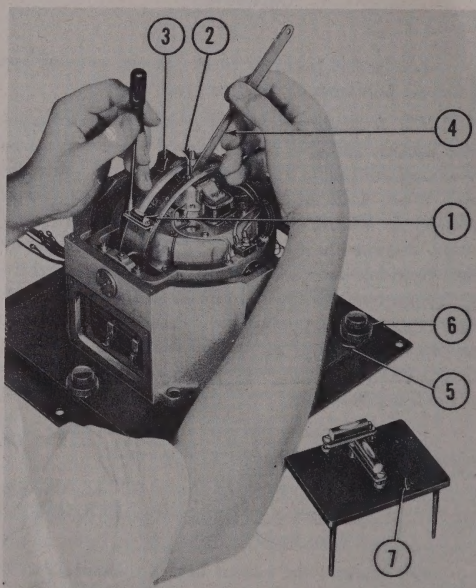

Figure 209 — Aligning Rotor Axis With Cardan Axis
(d) (See figure 209.) Mount rotor case on rotor case stand through bottom of housing. Place entire unit, with stand in place, on leveling plate. Turn leveling screws (6, figure 204) on leveling plate until level vials show rotor to be exactly level. Check level with master level gage (3), as shown.
(e) (See figure 209.) Place aligning jig (3) (made from bottom bail) on bottom bail bushings.
(b) (See *figure 209*.) Mount rotor case on rotor case stand through bottom of housing. Place entire unit, with stand, in place on leveling plate. Turn adjusting screws (6, *figure 204*) on leveling plate until level vials show rotor to be exactly level. Check level with master level gage (3).